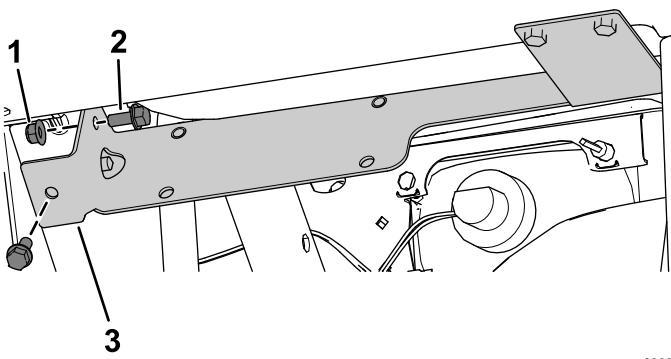

Figure 27
D. Secure the left side of the heater bracket using the 2 flange-head bolts (5/16 x 3/4 inch) and 2 flange nuts (5/16 inch) as shown in Figure 27.